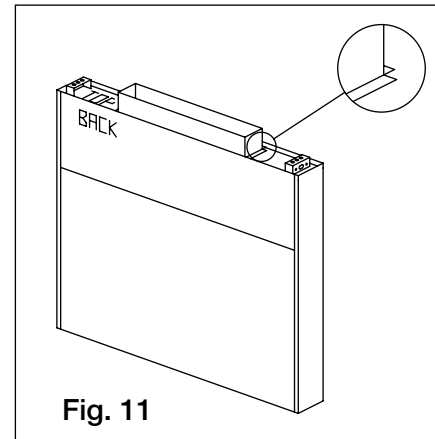

Fig. 11
4. Place the duct collar(s) over the opening, fastening with screws or tack-welds every 4 to 6 in. (10.16 to 15.24 cm). (Fig. 11)